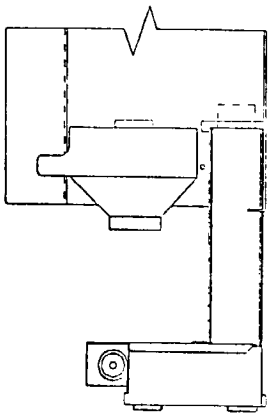
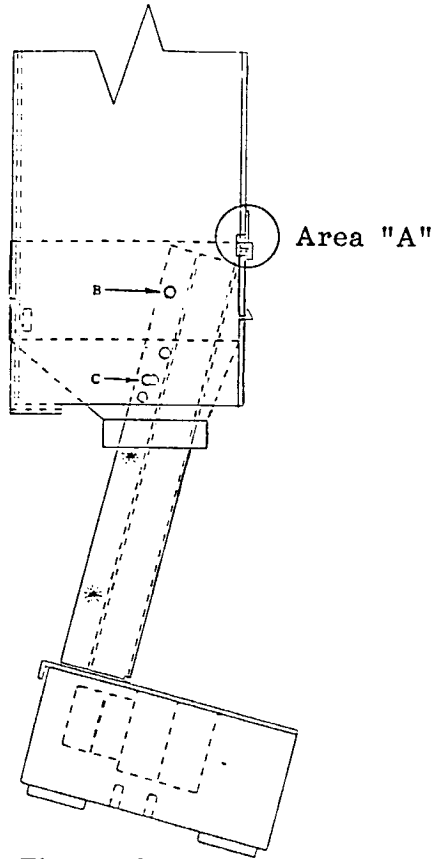

Figure 1
Figure 2
1. Align the four (4) holes in the small Service Lock Housing from Honor Gard with the four (4) holes in the base of the Multi Change Chute. (See figure 1 on page A3.) The housing mounts to the bottom of the Multi Change Chute.
2. Position the Lock Housing so the hole for the Route Lock is facing the flange of the Multi Change Chute Base. (See figure 1 on page A3.)
4. Secure the Lock Housing in position with four (4) #6-32 x 3/8 sems screws.
6. Align the four (4) holes in the plastic Multi Change Housing from Honor Gard with the four (4) holes in the base of the Multi Change Chute. (See figure 1 on page A3.) The housing mounts to the bottom of the Multi Change Chute.
7. Secure the Multi Change Housing in position with four (4) #6-32 x 3/8 sems screws.
- A. & B. On venders serialized 0001-6065AQ and higher, install the w/a Multi Change Chute in position so the top tab goes in the slot and behind the access door. (See figure 2, area A on page A3.) Go to step 11.
11. Align the two holes in the side of the Multi Change Chute with the holes in the access door. (See figures 2 or 4, B and C on page A3.)
12. Secure the top holes (B) in position with a pop rivet.
13. Align the bottom hole (C) of the Multi Change Chute with the forward hole of the access door. **Note:** The bottom hole on the access door has two holes that overlap. Secure the Multi Change Chute so its hole is aligned with the forward position hole of the access door. (See figures 2 or 4, C on page A3.)